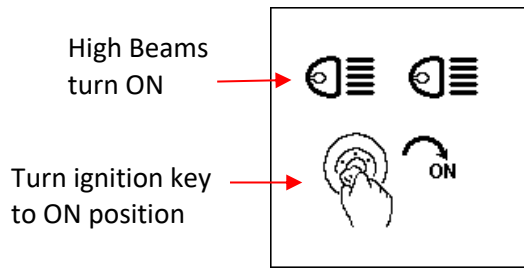

Fig.21
5. If the tester detected that the battery has surface charge it will prompt you to turn the ignition key to ON and switch on the headlights (Fig.21) to discharge the battery until it has reached to the next